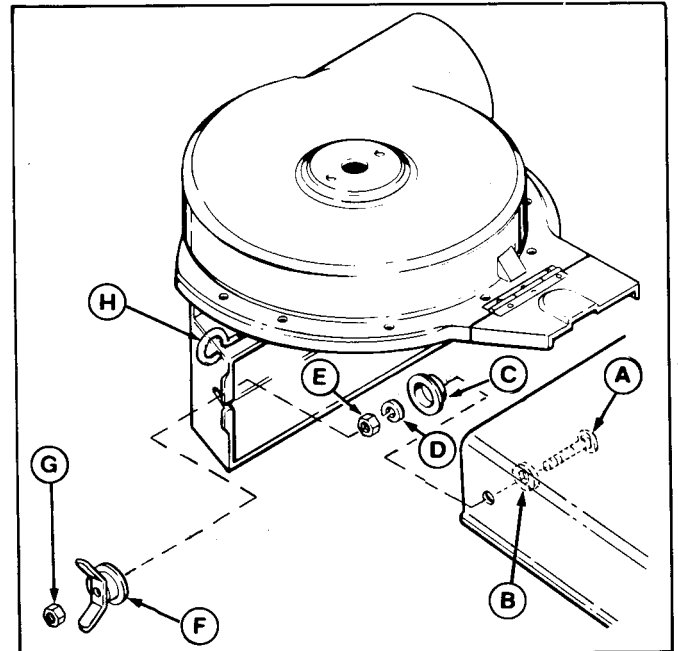

Figure 7.
- Install wing nut assembly (figure 7) as follows. Insert 5/16-18 x 2-1/2 capscrew (A) and 5/16 flat washer (B) from inside the deck. Place the cup (C) onto the capscrew and install 5/16 lockwasher (D) and 5/16 nut (E). Thread the wingnut (F) onto capscrew and install the 5/16 locknut (G) flush with end of capscrew.
Cup (C) must be installed as shown in figure 7.